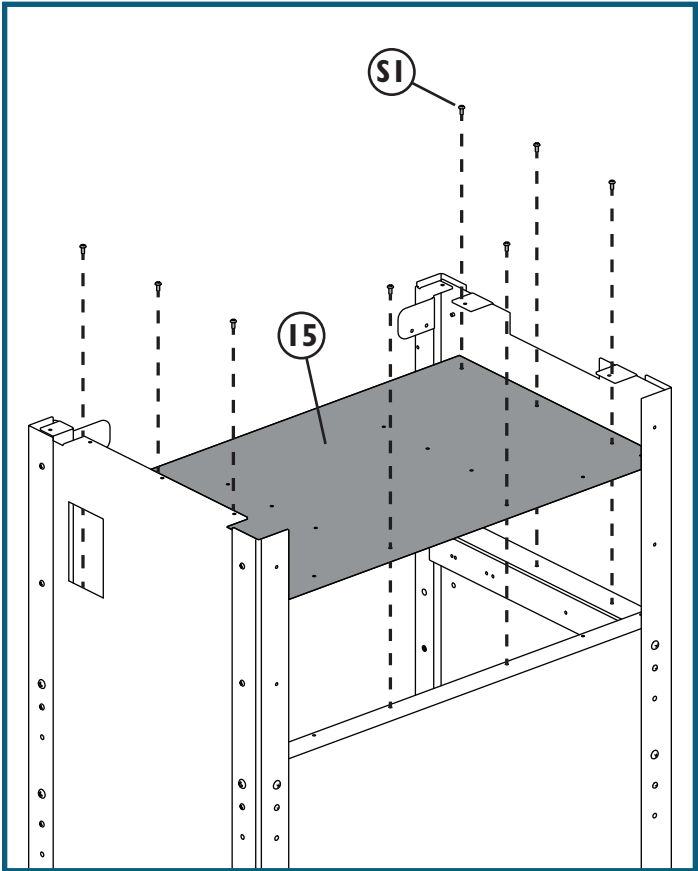

Fig. 10
11. Fit the Middle Shelf (15) onto the top Left and Right Drawer Slide Brackets (12 and 13), making sure to position it so that the long edge with the holes is at the back of the Cabinet. Attach the Middle Shelf to the Left and Right Drawer Slide Brackets with three M4 x 3/8" Pan-Head Self-Tapping Screws (S1) into each. Attach the Middle Shelf to the Back Panel (14) with two M4 x 3/8" Pan-Head Self-Tapping Screws (S1) driven into the middle two holes along the back. Do not drive screws into the two outer holes. **Fig. 10.**